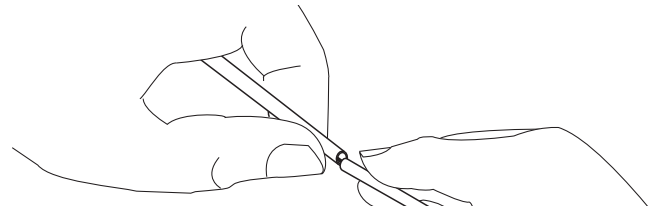

Figure 10
**Step 3:** Carefully flex the tube to break it at the score point (Figure 10).